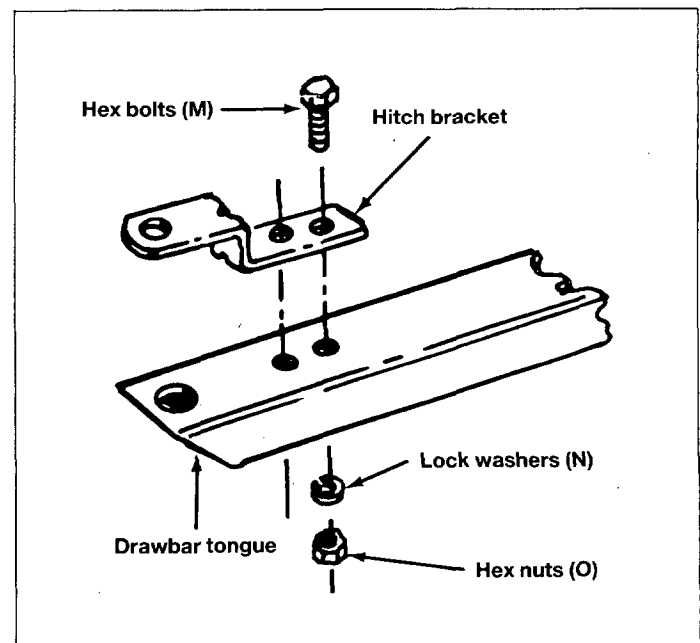

Fig. 14
19. Assemble hitch bracket to drawbar tongue, using $3/8" \times 1"$ (10 x 25 mm) long hex bolts (M), lock washers (N) and hex nuts (O). See figure 14.